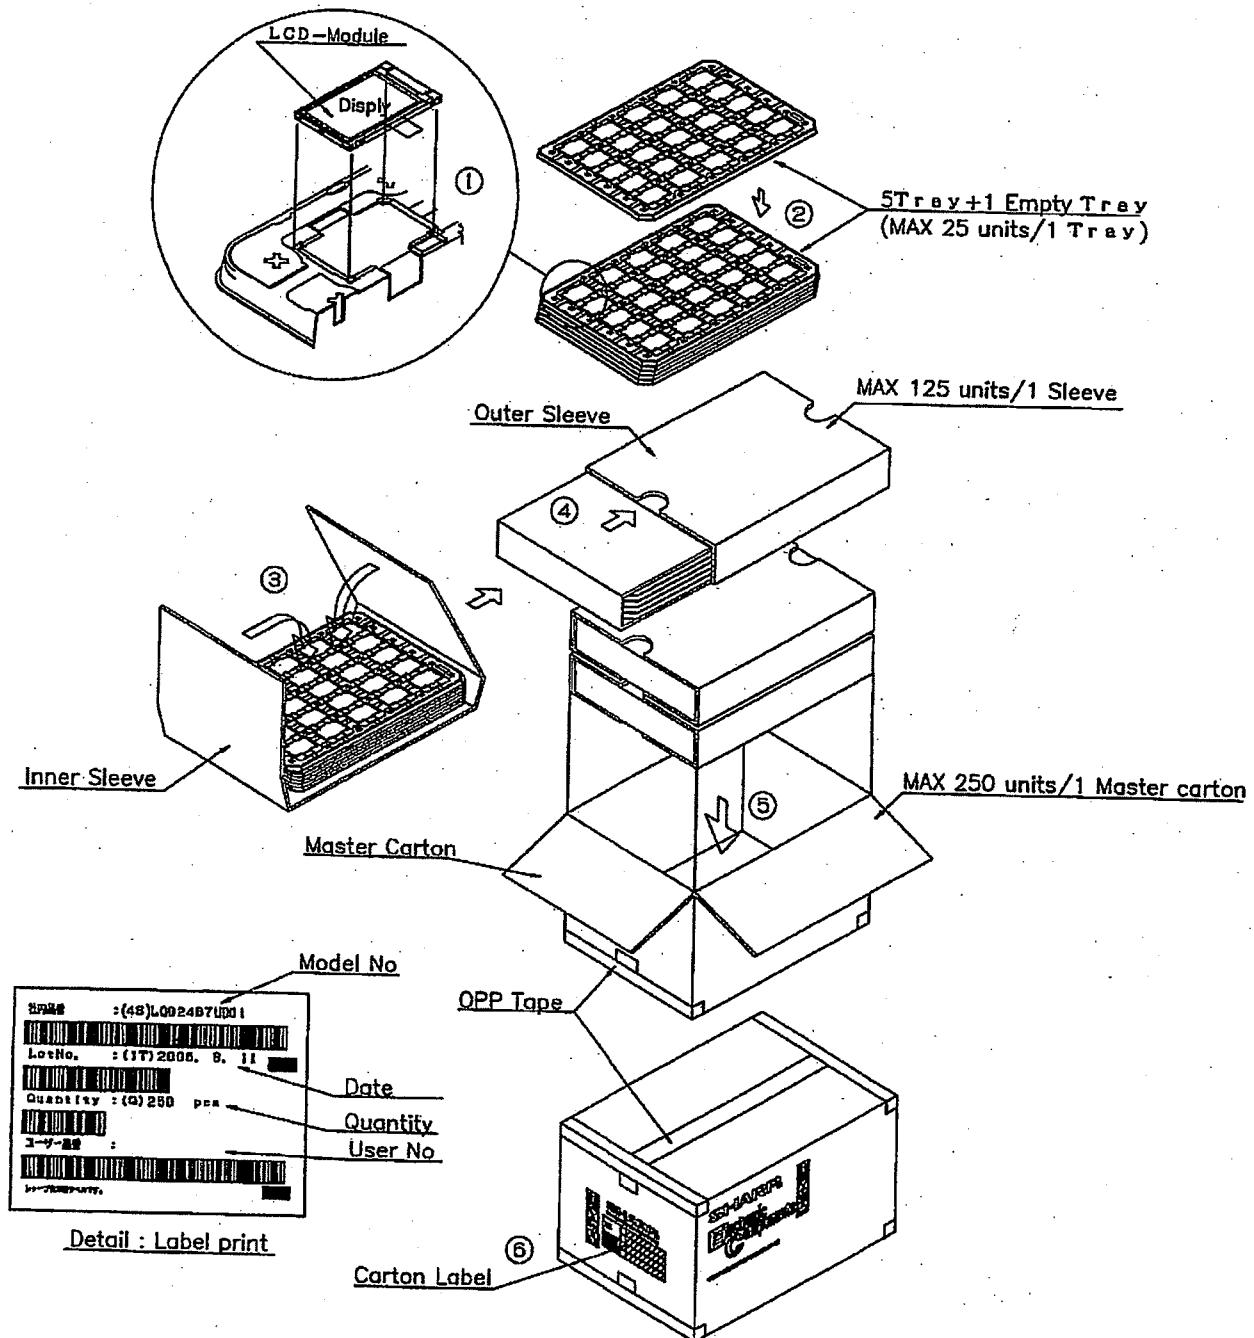

Fig. 2 Packing form
16) Forwarding form (see Fig.2)